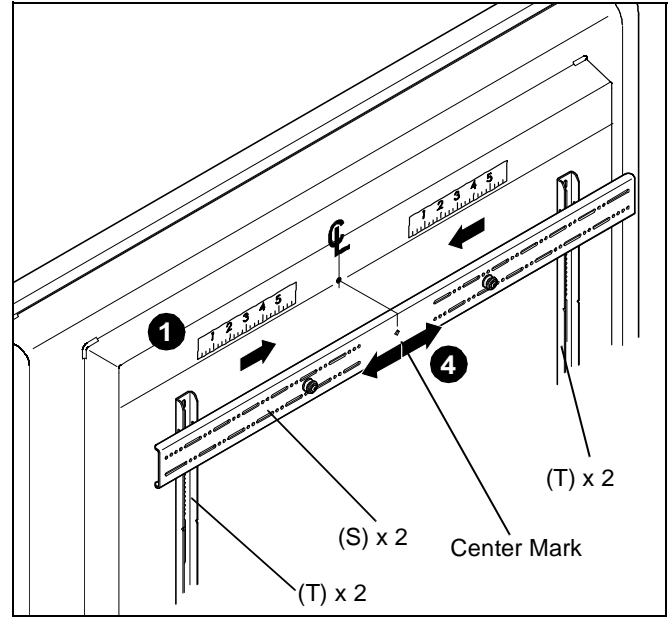
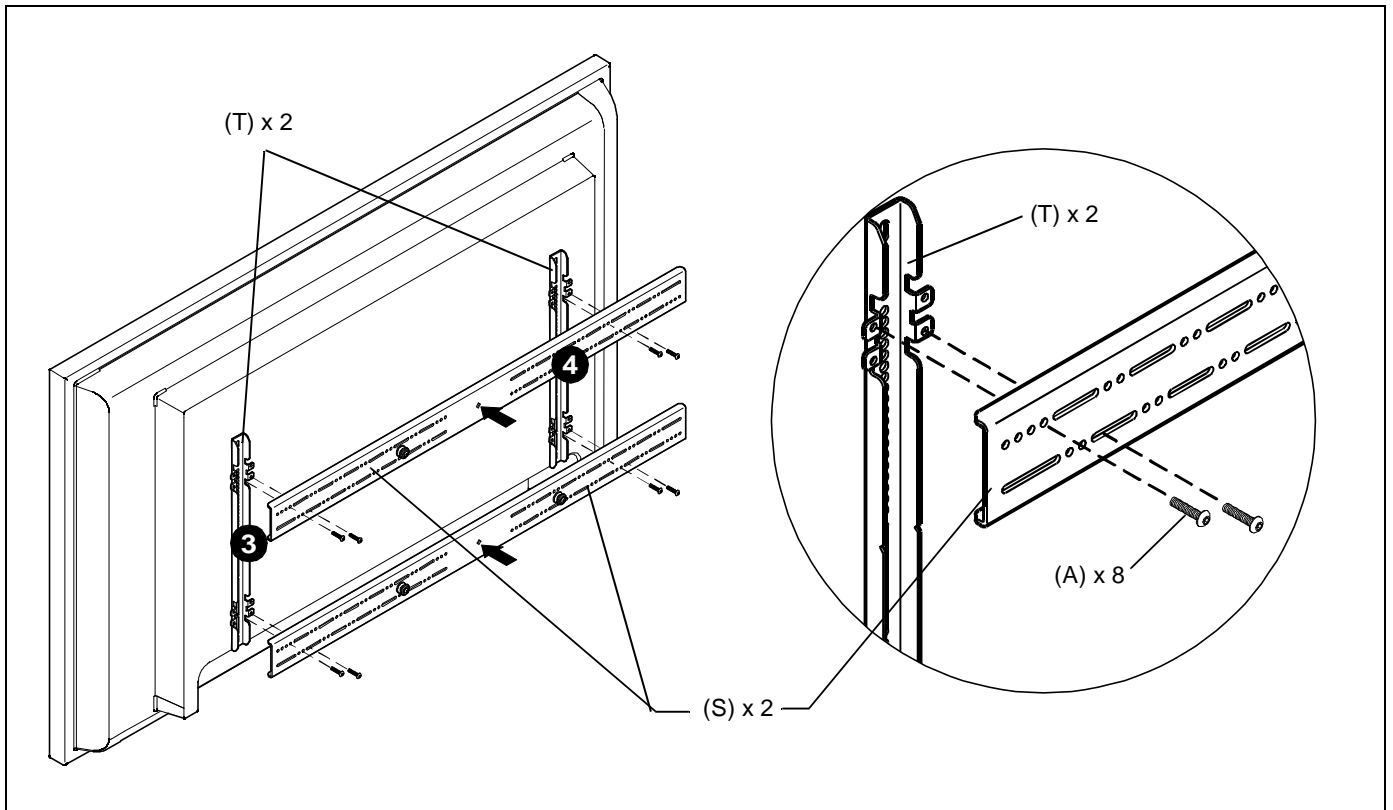

Figure 3
Figure 4
8. Determine and mark the horizontal center position between the Left and Right *TOP* mounting holes in display. (See Figure 3)
9. Determine and mark the vertical center position between the Left and Right *BOTTOM* mounting holes in display. (See Figure 3)
11. Adjust Upper horizontal mounting bracket (S) position until center diamond in horizontal mounting bracket (S) aligns with mark made in step 8 and mounting holes and slots horizontal mounting bracket (S) are aligned with threaded holes in mounting tabs of left and right vertical mounting brackets (T). (See Figure 3) and (See Figure 4)
12. Secure upper horizontal mounting bracket (S) to left and right vertical mounting brackets (T) using four Button head cap screws (A). (See Figure 4)
13. Repeat steps 10 through 12 for lower horizontal mounting bracket (S).
IMPORTANT ! : The orientation of, and mounting holes used, when installing the lower horizontal mounting bracket must be the same as the upper horizontal mounting bracket. Vertically align upper and lower brackets by aligning holes or end of slots. (See Figure 4)
IMPORTANT ! : Whenever possible install mounting screws diagonally as shown in detail in figure 4 below.